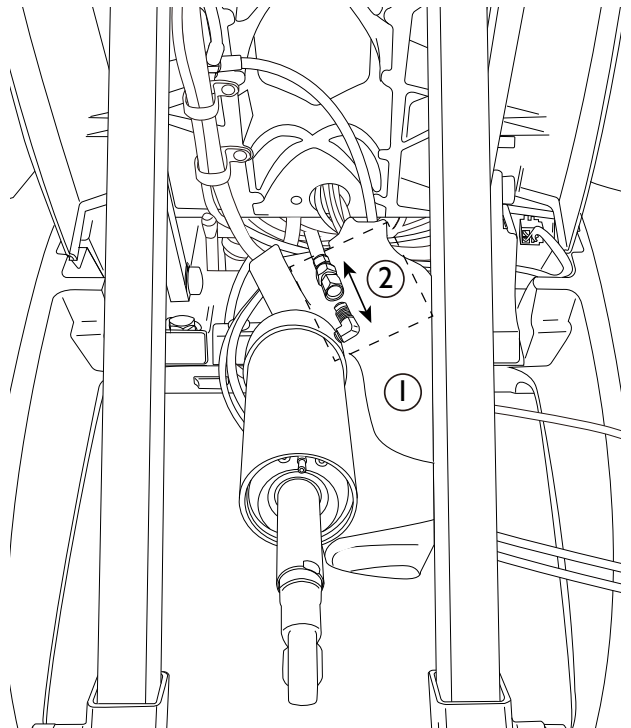

Figure 9. Disconnecting the hydraulic line
- 6** Disconnect the hydraulic line (see Figure 9, item 2) using either a Crescent Wrench or a 9/16" open-end Combo Wrench.